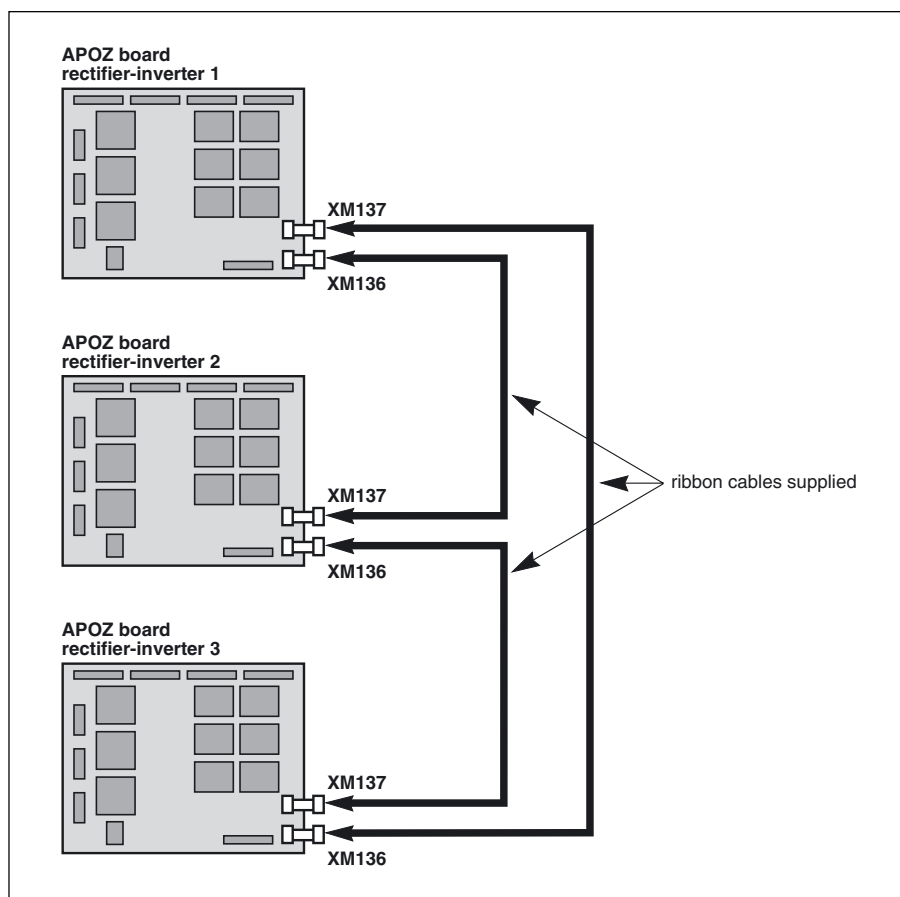
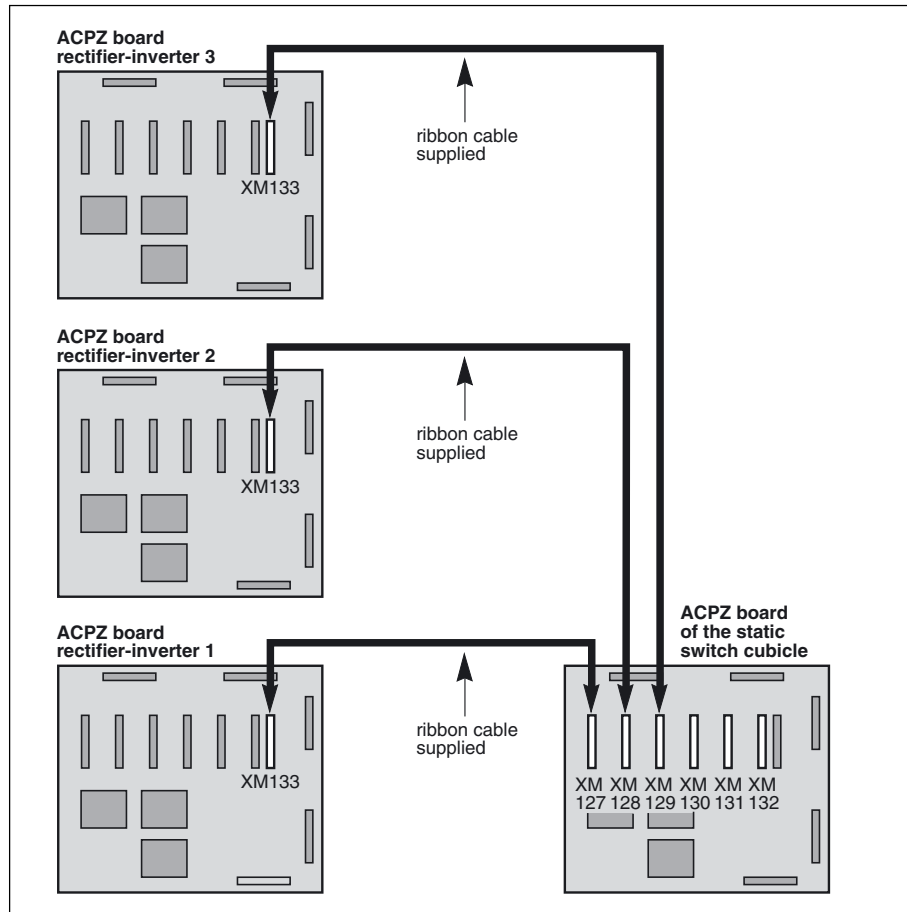
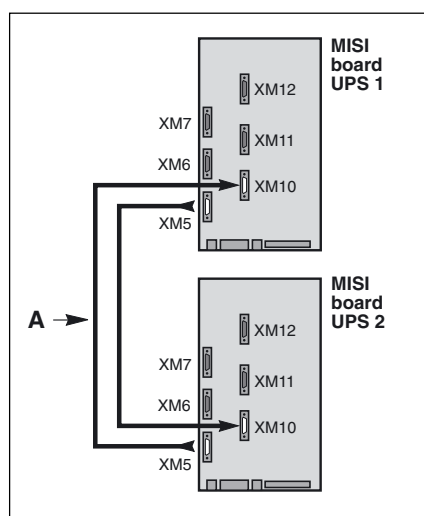

Fig. 17
Fig. 18
Fig. 19
On modular UPSs, interconnections are made on the APOZ (figure 17) and MISI (figures 19 to 21) boards in the UPS cubicles (see the layout of the boards in the figures in the previous section).
For parallel UPSs with a centralised SSC, interconnections are made on the APOZ boards in the UPS cubicles (figure 17) and the ACPZ boards (see the layout of the boards in the figures in the previous section) in the SSC (figure 18).
See figures 19 to 21.
- these connections are made using the special cables (A) supplied;
- situation with two modular UPS units: see figure 19;